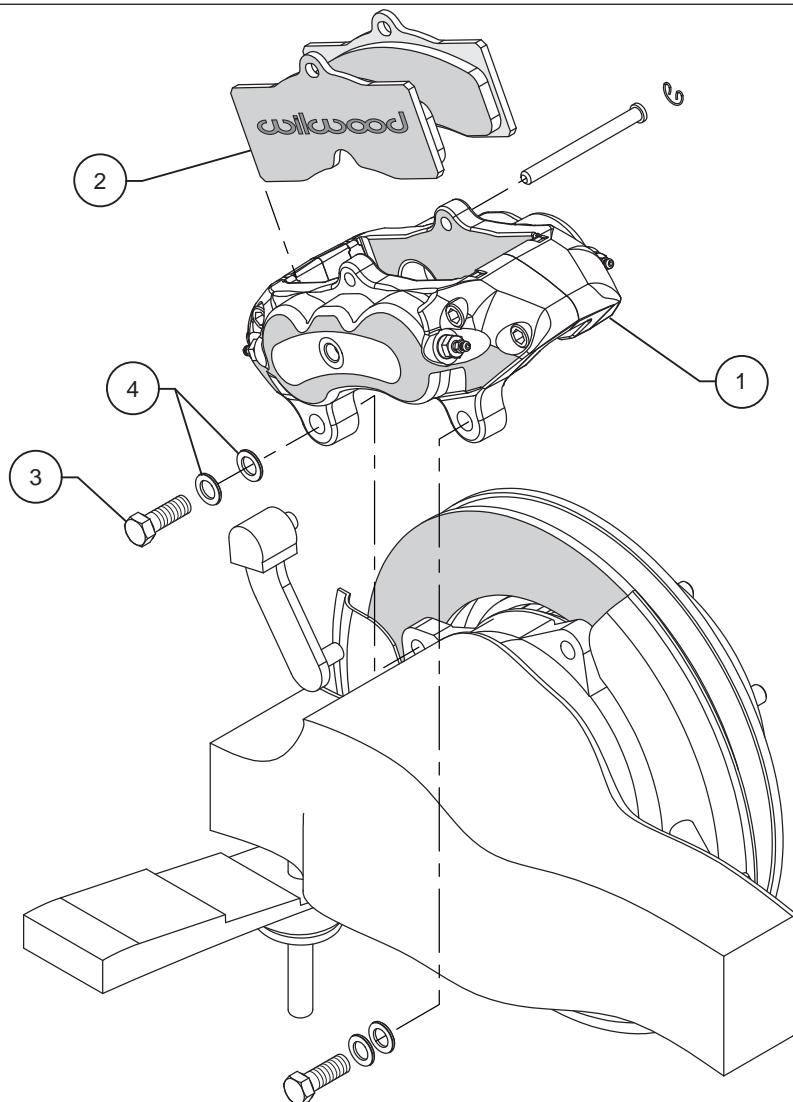

Figure 1. Typical Installation Configuration
- Place the Wilwood D8 caliper (1) in the exact position as the original caliper. Secure the caliper to the OEM mounting bracket by sliding bolt (3) through two washers (4), as shown in Figure 1, using red *Loctite*® 271 on the bolt threads. Torque bolts (3) to 55 ft-lbs.
- Remove the caliper pad retaining pin from the caliper (1) by popping out the pin retaining clip and sliding out the pin. Slide the brake pads (2) into place. They should install easily without interference. Reinstall the pad retainer pin and secure using the pin retaining clip.